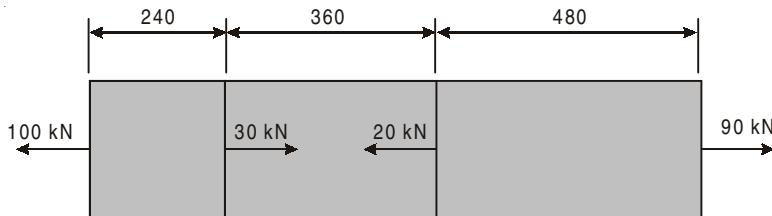

Fig. 1.24
- 1.42.** A steel bar of cross-section 600 mm^2 is acted up by forces as shown if Fig. 1.24. Determine the total elongation in the bar. $E = 2 \times 10^5 \text{ MN/m}^2$.